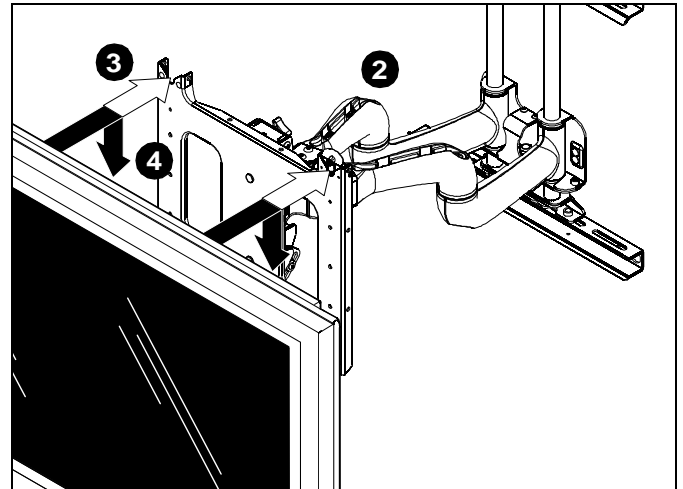
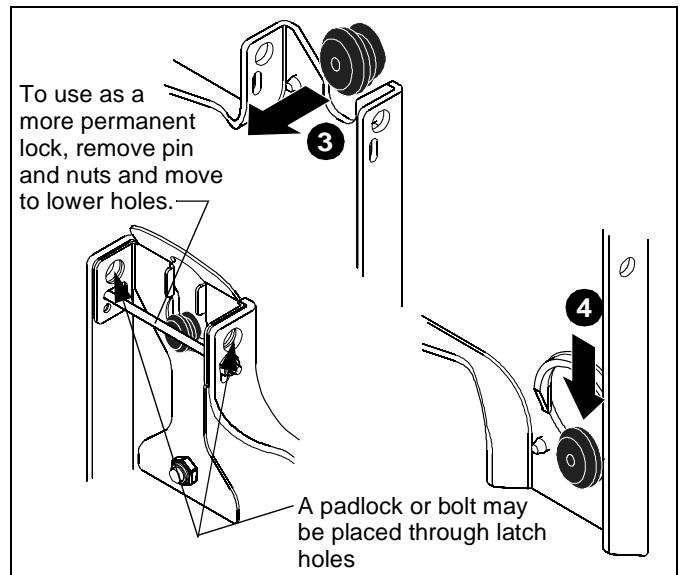

Figure 5
Figure 6
3. While supporting both sides of display, align four mounting buttons on display or interface bracket with four mounting holes in faceplate. (See Figure 5)
4. Lower display into place listening for audible "click" to ensure recessed area of mounting buttons are properly seated in lower area of mounting holes and ClickConnect mechanism has engaged. (See Figure 5) and (See Figure 6)
**NOTE:** Holes are provided in the faceplate for use with a padlock or similar locking device, if desired. In addition, the pin and nut may be removed from the upper holes and moved to the lower holes for use as a more permanent locking device. (See Figure 6)